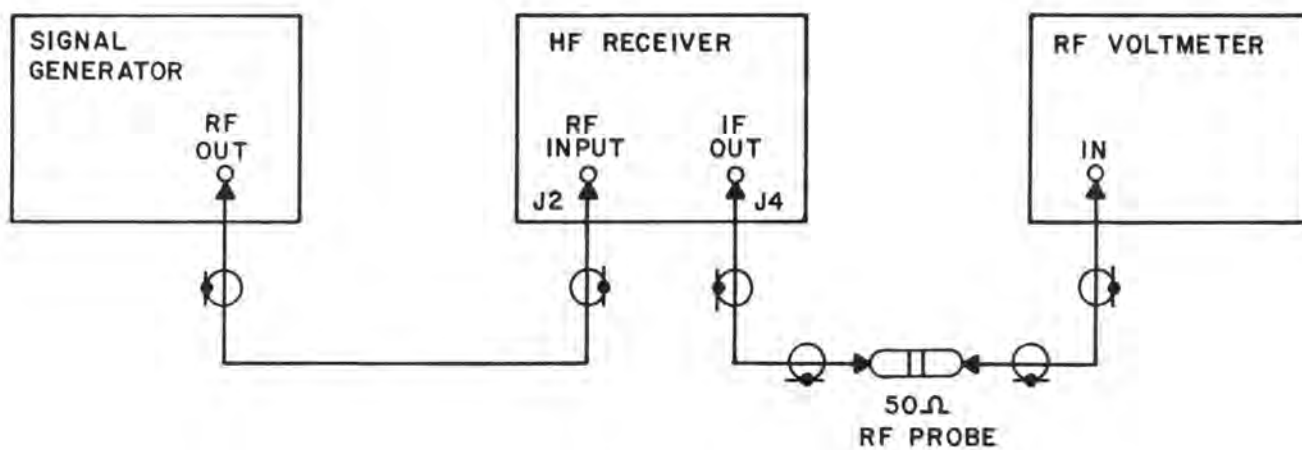

Figure 4-7. IF Gain Adjustment
1. Remove the IF Motherboard cover plate on the right side of the receiver chassis. Connect Test Equipment as shown in Figure 4-7.